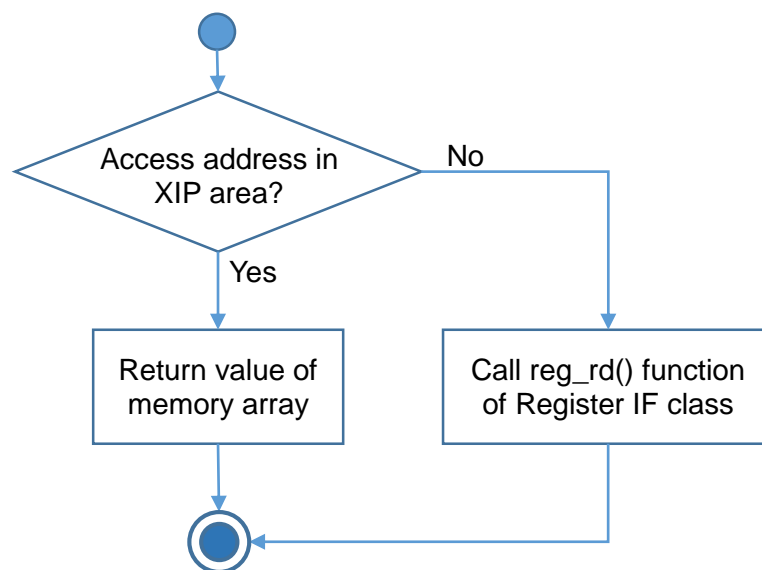

Figure 8.3: Flow of a `reg_read()` function.
- (1) Registers are accessed by calling `dw_ssi_write()` or `dw_ssi_read()`.
- (2) When `dw_ssi_write()` is called, the model interface will call `reg_write()` in model core, which in turn call `reg_wr()` of Register IF class
- (3) For read access, `reg_read()` in model core will be called. The Figure 8.3 describes the flow of `red_read()` function.